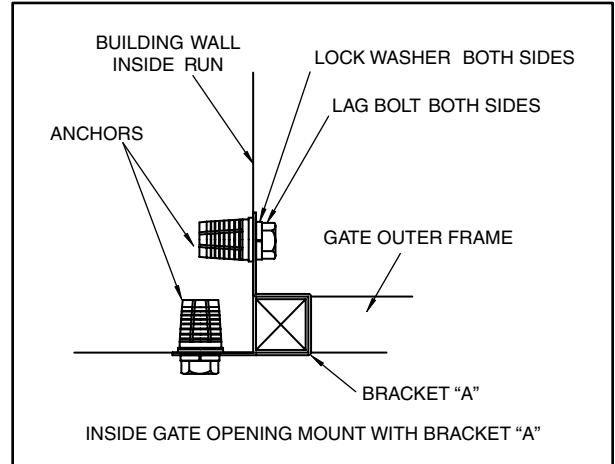

FIGURE B3
c. OPTIONAL MOUNTING OPTION Inside gate opening with Bracket "A"- See Figure B3.